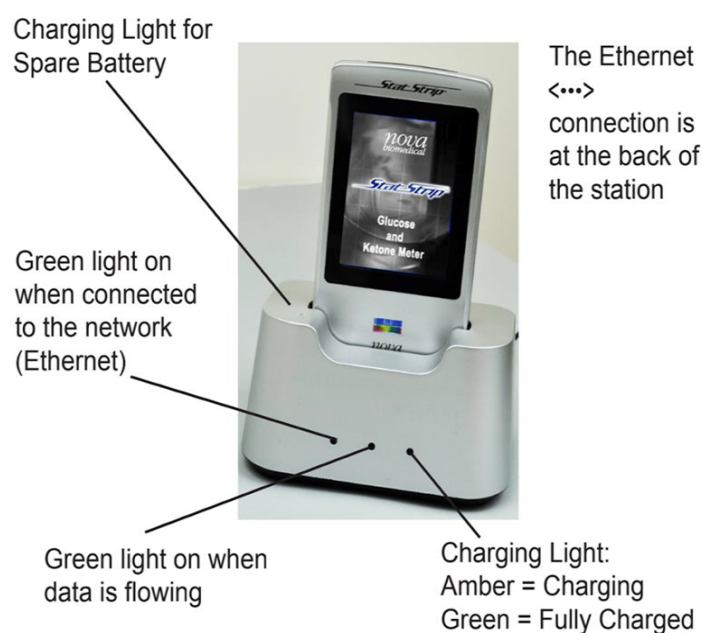

Figure1. Nova StatStrip Docking / Charging Station
11. Alternatively, place the handset into the Docking/Charging Station for result upload and battery charging. See Figure 1 below for details.